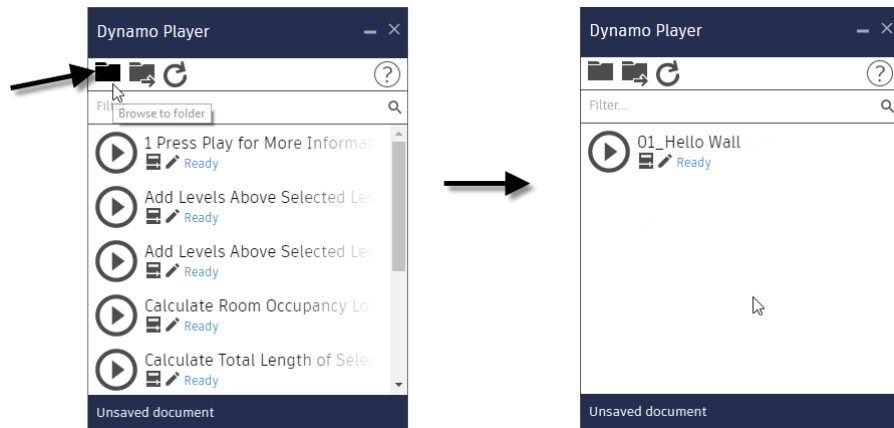

FIGURE 3
5. Browse to: **[Local location of the lab datasets]**⁴ and then click OK (see Figure 3).